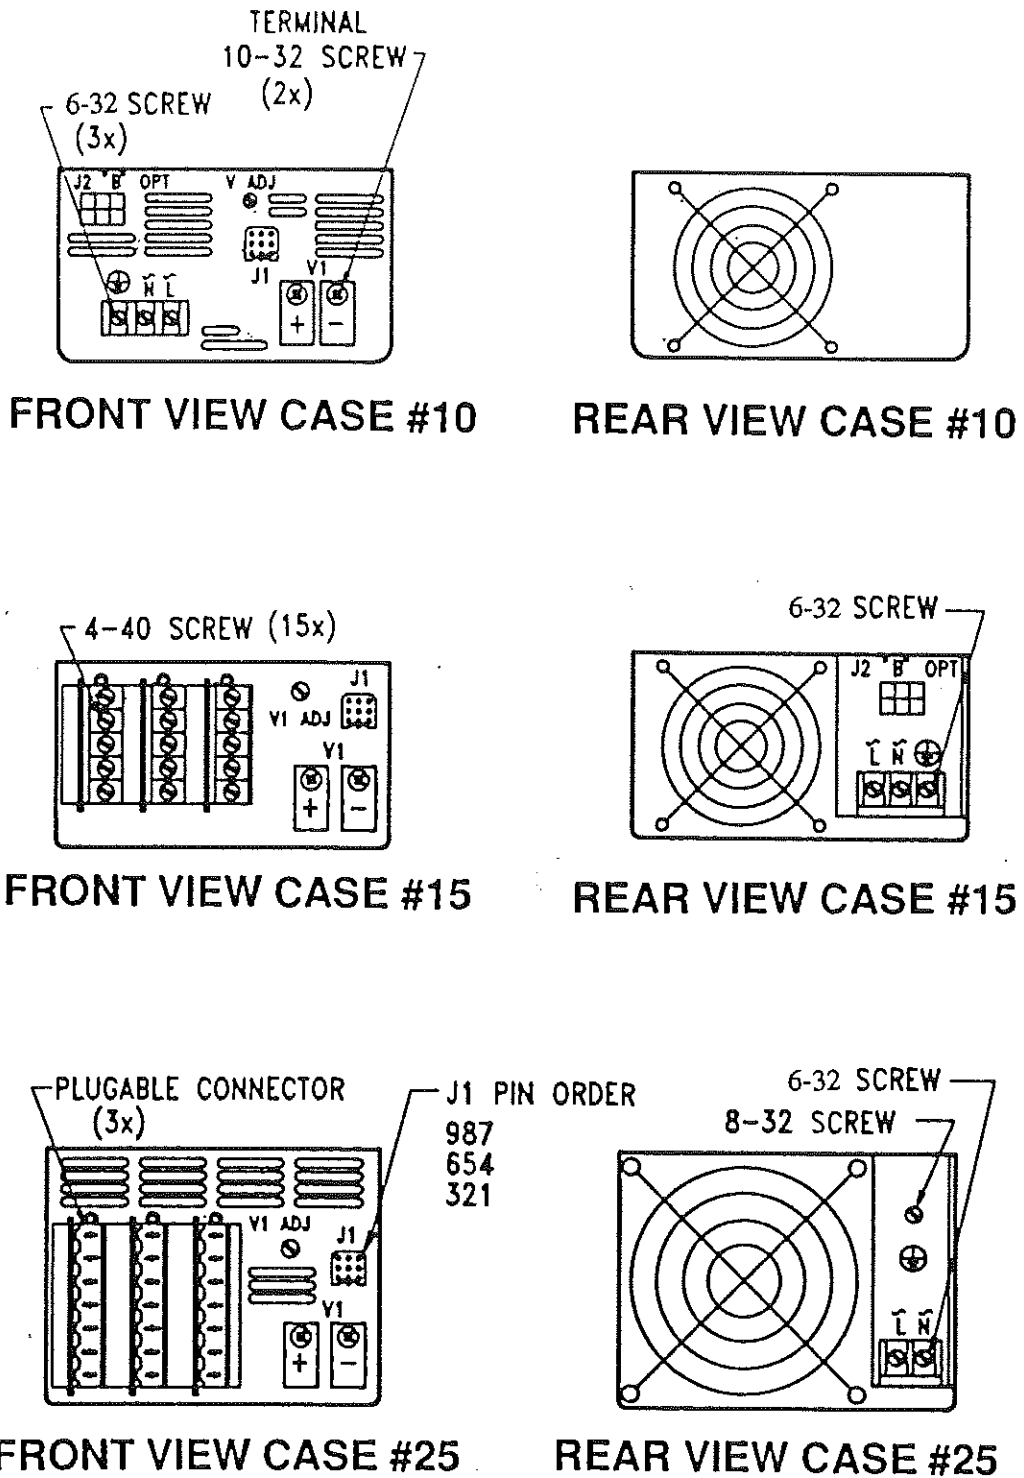

Figure 3. Front and Rear Panel Views
- 6.1 Front and rear views of the P Series cases are shown in Fig. 3. The case types are designated as follows:
Pluggable Aux. Connector, Case 15 (Option P)	The pluggable connectors shown as standard on Case 25 in Fig. 3 are available as an option on Case 15. They are LMI type connectors.
9.2 **Outputs.** The main output (V1) power connections are made to no. 10-32 screws on nickel-plated brass bus bars. See Fig. 3. The left bus bar is positive and the right one negative. See Section 12.4 for maximum torque on the screws.
- 9.7 **Output Voltage Adjustment.** The main output voltage and all auxiliary output voltages are independently adjustable by means of potentiometers on the front panel. See Fig. 3. No output should be continuously operated outside its nominal range of $\pm 5\%$, and the total output power of all outputs must not exceed the maximum rating of the power supply.